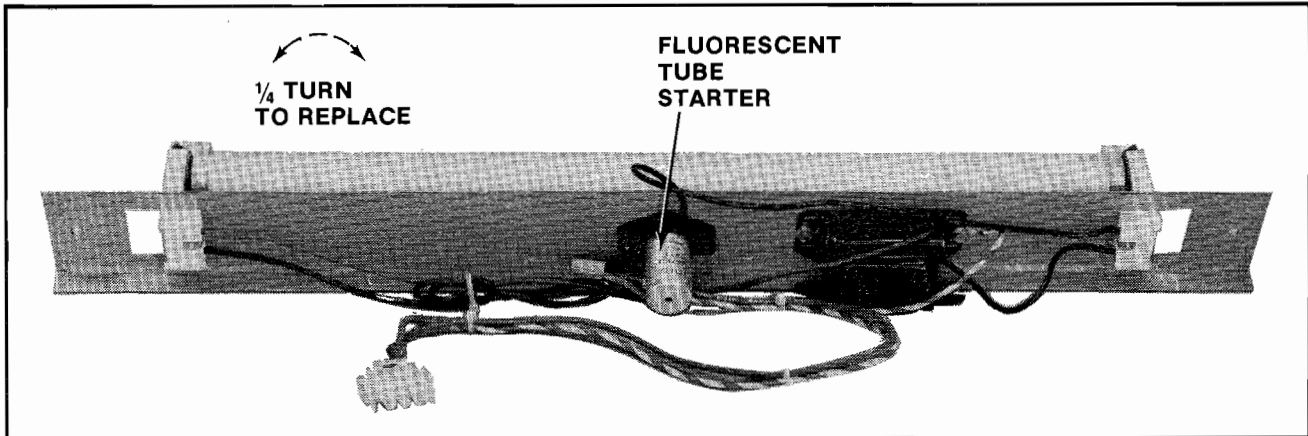

Figure 27 Replacing fluorescent starter — Upright game
**WARNING: If you drop a fluorescent tube and it breaks, IT WILL IMplode! Shattered glass can fly six (6) feet or more from the implosion. Use care when replacing any fluorescent tube.**
- Replacing the fluorescent tube starter. See Figure 27.